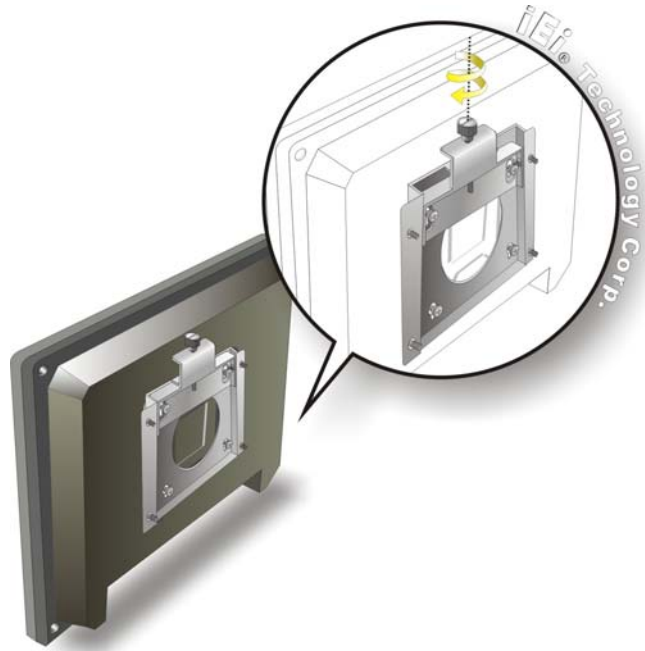

Figure 2-13: Secure the Panel PC
Step 9: Secure the panel PC by fastening the retention screw of the wall-mounting bracket. (**Figure 2-13**).